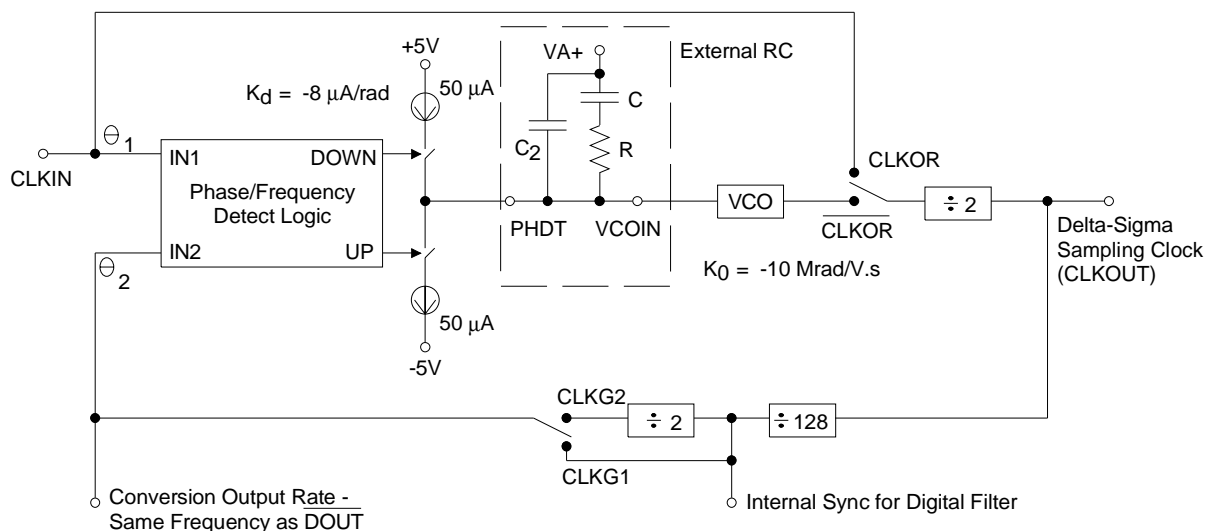

Figure 5. PLL Functional Diagram
A phase-locked loop is included on the CS5317 and is used to generate the requisite high frequency A/D sampling clock. A functional diagram of the PLL is shown in Figure 5. The PLL consists of a phase detector, a filter, a VCO (voltage-controlled oscillator), and a counter/divider. The phase detector inputs are CLKIN ( $\theta_1$ ) and a sub-multiple of the VCO output signal ( $\theta_2$ ). The inputs to the phase detector are positive-edge triggered and therefore the duty cycle of the CLKIN signal is not significant. With this type of phase detector, the lock range of the PLL is equal to the capture range and is independent of the low pass filter. The output of the phase detector is input to an external low pass filter. The filter characteristics are used to determine the transient response of the loop. The output voltage from the filter functions as the input control voltage to the VCO. The output of the VCO is then divided in frequency to provide an input to the phase detector. The clock divider ratio is a function of the PLL mode which has been selected.
tio sets the ratio of the VCO frequency to the CLKIN frequency. As illustrated in Figure 5, the VCO output is always divided by two to yield the CLKOUT signal which is identical in frequency to the delta-sigma modulator sampling clock. The CLKOUT signal is then further divided by either 128 in the CLKG1 mode or by 256 in the CLKG2 mode. When the divide by two stage is included, the divider ratio (N) for the PLL in the CLKG1 mode is effectively 256. In the CLKG2 mode the divider ratio (N) is 512.
In some applications additional filtering may be useful to eliminate any jitter associated with the discrete current pulses from the phase detector. In this case a capacitor whose value is no more than 0.1 C can be placed across the RC filter network (C2 in Figure 5).